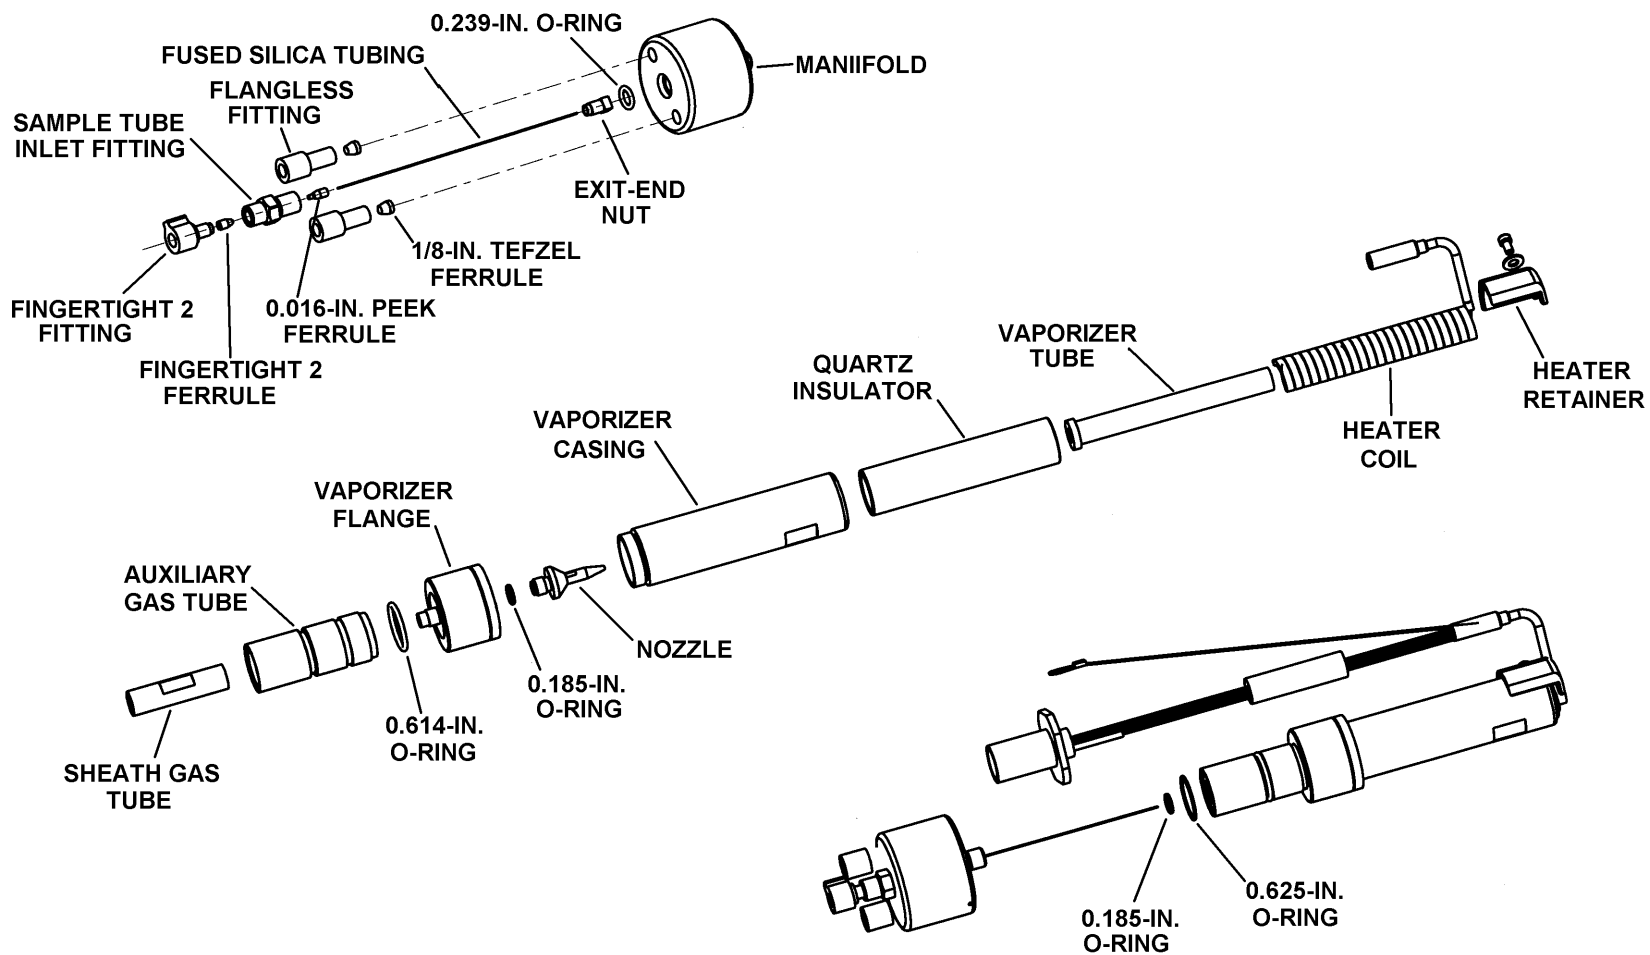

Figure 5-4. Exploded view of the APCI probe
1. Complete the disassembly of the APCI probe as follows. See Figure 5-1 on page 5-10 and Figure 5-4 for the location of the components.